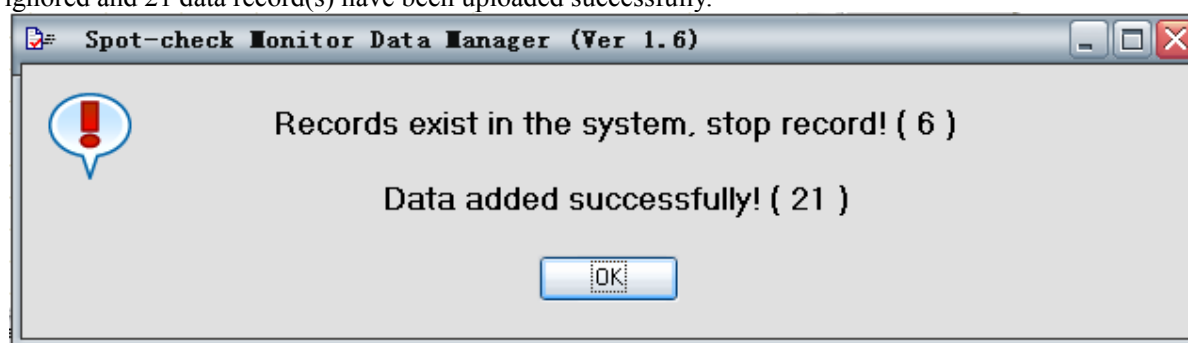

Figure 3.7B
4. Click on "  " button, the data upload will be done, and the system info window will appear, as shown in figure 3.7B. Click "OK" button to return to the record list. Figure 3.7B shows that 6 already uploaded data records are ignored and 21 data record(s) have been uploaded successfully.